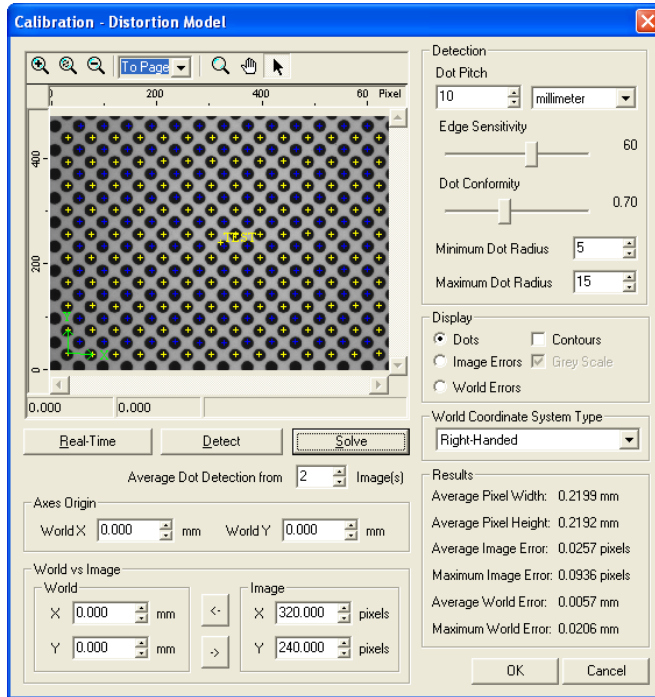

Figure 81 Distortion Model Calibration Dialog
5. Go to the **Calibration** sub-panel. Select **Distortion Model**. Click **Show Calibration Dialog**. The **Calibration - Distortion Model** dialog is displayed (see Figure 81).